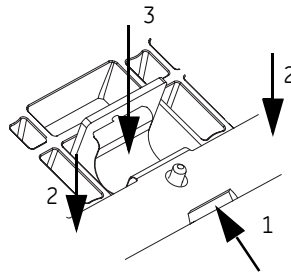

Figure 1
- Tighten. Use the top plate screw tightening sequence to correctly install and tighten the screws (Figure 1).